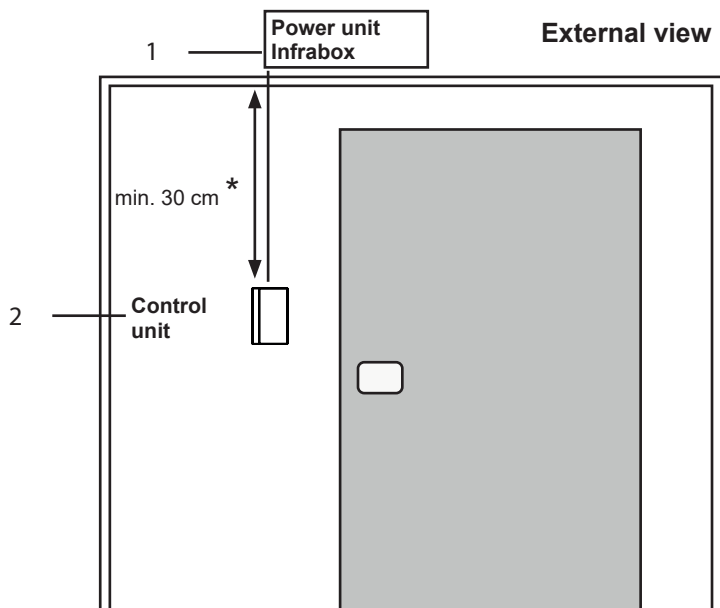

Fig. 2 Control unit position
The control unit 2 of the infrared controller is installed on the outside wall of the cabin with a maximum clearance of 10 metres from the power supply unit 1 (see Fig. 2). For the installation, a standard jigsaw is required to cut out the recess for the control unit. The control unit can be installed both inside and outside the cabin.
* For installing inside an infrared cabin, a minimum clearance of 30 cm must be maintained (see Fig. 2 Control unit position on page 11).